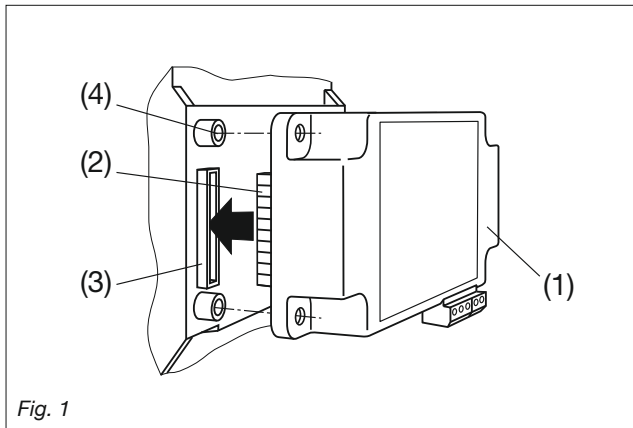

Fig. 1
Simply plug-in the extension module (1) at the back of the basic instrument (Fig. 1). Please ensure that the plug (2) and socket (3) are aligned correctly.